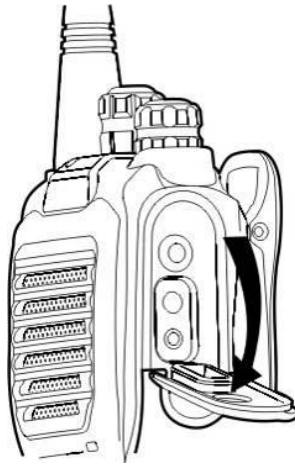

Figure 9
1. Open (not remove) the accessory cover, shown as figure 9.